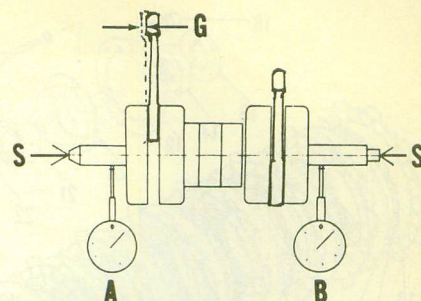
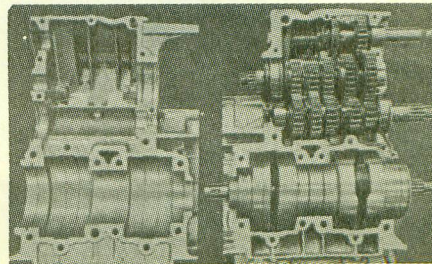

Fig. Y8-15—Refer to text for checking crankshaft for correct assembly or wear.
Fig. Y8-21—Gears and shafts should stay in place in the top half of crankcase when the lower half is lifted off.
CONNECTING RODS AND CRANKSHAFT. The crankcase halves must be separated to remove the crankshaft. Refer to Fig. Y8-21. Connecting rods, crankpins rod bearings and the center main bearings and seal are removed by pressing the crankshaft apart. The crankshaft should be disassembled **ONLY** if required tools are available to correctly check and align the reassembled crankshaft. If side shake (G—Fig. Y8-15) at piston pin end of connecting rod exceeds 2MM (0.08 in.), the connecting rod, crankpin and lower bearing should be renewed. Shake (G) should be 0.8-1.0MM (0.032-0.039 in.). Side clearance of connecting rod between the crankshaft counter weights can be measured with a feeler gage. Side clearance should be 0.1-0.3MM (0.0039-0.012 in.). With crankshaft supported between lathe centers (S—Fig. Y8-15), maximum eccentricity
The gears and shafts should remain in place in the top half as shown in Fig. Y8-21.